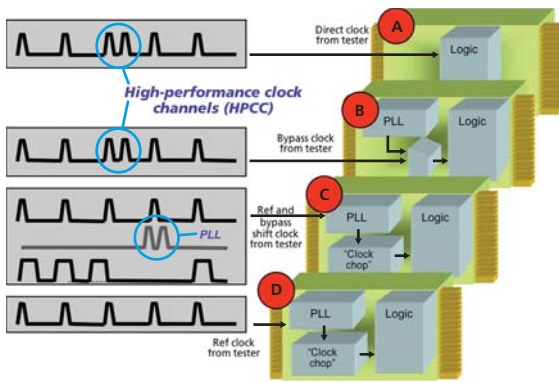

Figure 2: AC scan-based delay testing clock configurations
1. The shift and sample clocks source from the ATE (refer to Figure 2, configurations A and B). The shift may occur at one speed (slow) and the sample may occur at a different speed (at-speed); or, the tester may apply the same shift and sample speed. This places all of the timing generation requirements on
2. The shift clock may source from the ATE with the sample clock sourcing from the PLL (refer to Figure 2, configuration C). This places the timing generation requirements on the embedded PLL and requires a handoff between the ATE and the PLL.
3. The shift clock and the sample clock both source from the PLL (refer to Figure 2, configuration D). This places the entire test sequence generation requirement on the PLL. Since operation of the shift architecture at high speeds is a known power problem, and since shift data rates from the ATE are relatively slow, there generally needs to be a pulse chop or frequency reduction applied to the shift portion of the operation.